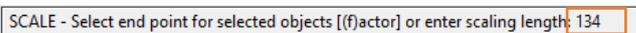

Figure 414
- f. As indicated in Figure 414, we can use  (Point to Point Measure) to verify that the scaling is correct.